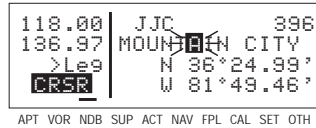

Figure 4-93
1. Select the desired waypoint page (APT, VOR, NDB, or SUP) on the screen (figure 4-93) using one of the three procedures explained in section 4.8.